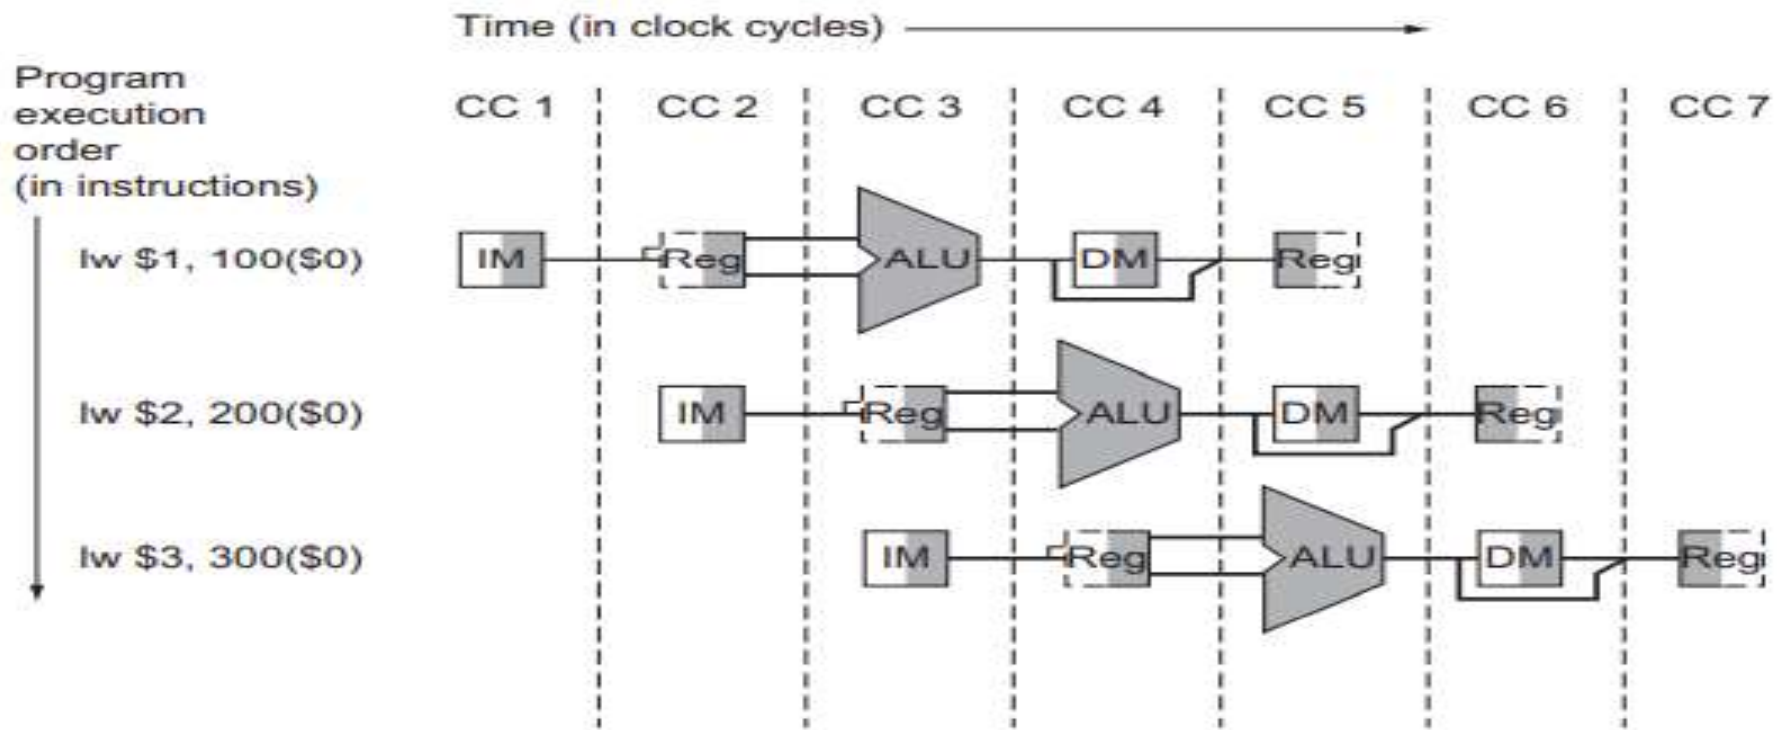

FIGURE 34 Instructions being executed using the single-cycle datapath assuming pipelined execution.
- Figure 34 shows the execution of the instructions by displaying their private datapaths on a common timeline.